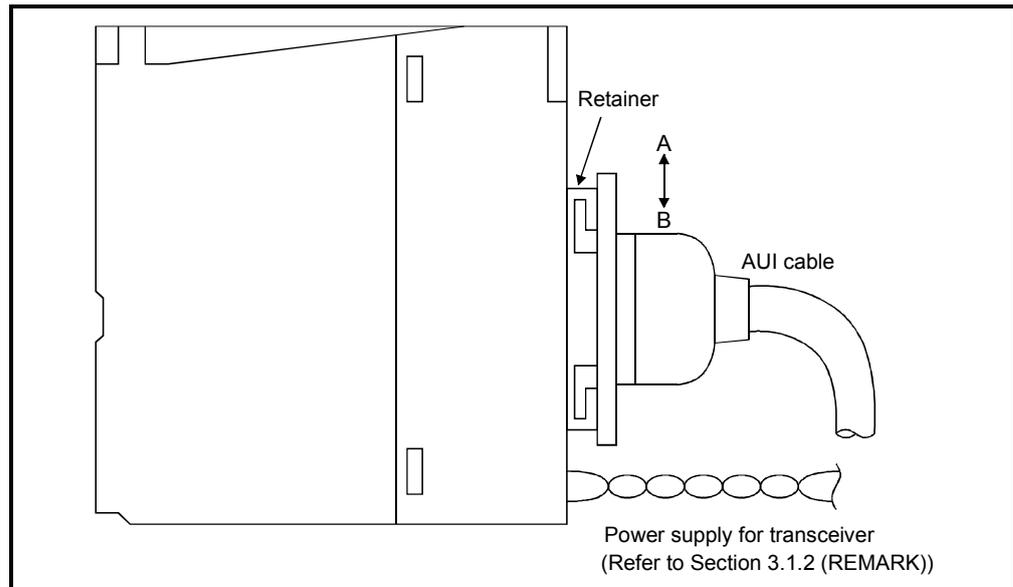

Fig. 5.1 Diagram of AUI cable connection
- (Step 1) Slide the retainer in direction B shown in Fig. 5.1
- (Step 3) Slide the retainer in direction A shown in Fig. 5.1